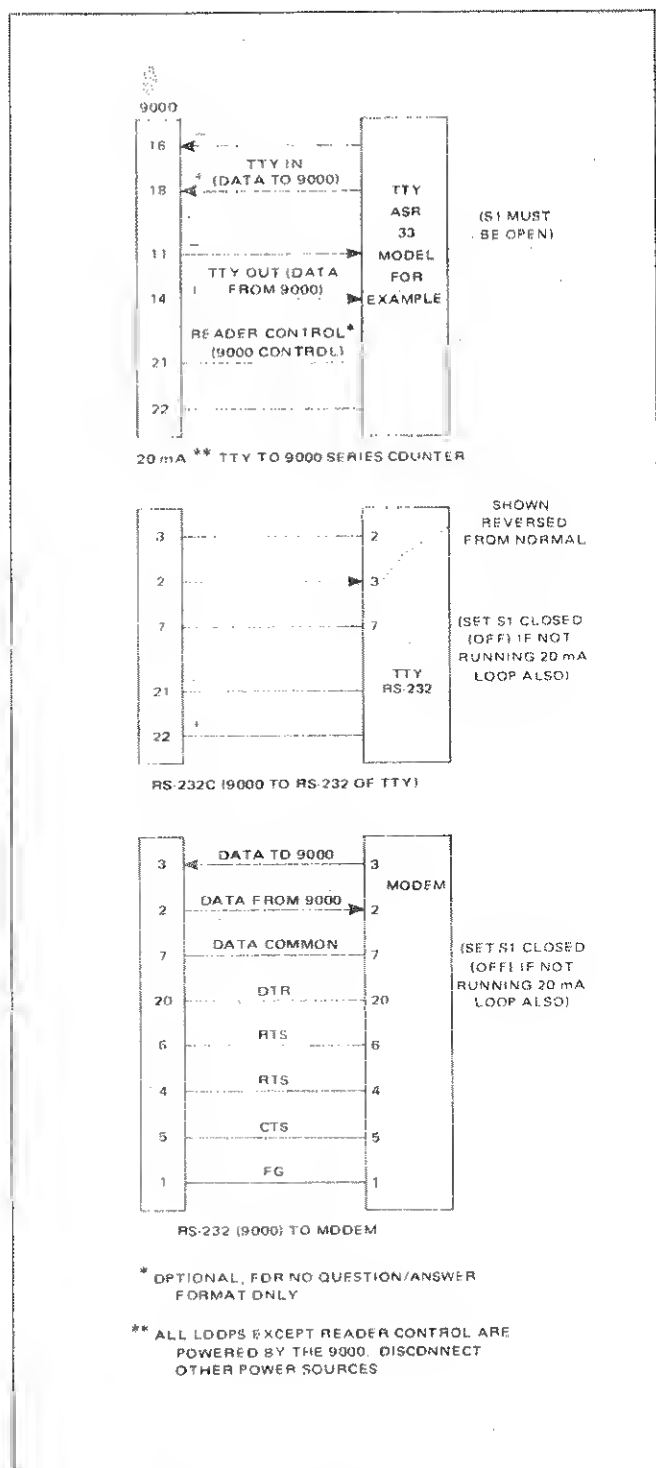

Figure 3.3 - Interface Wiring for TTY Operation
3.11.3 All option 57 interface connections are through a 25-pin connector shown in table 3.14. Proper wiring for the various TTY modes is shown in figure 3.3.